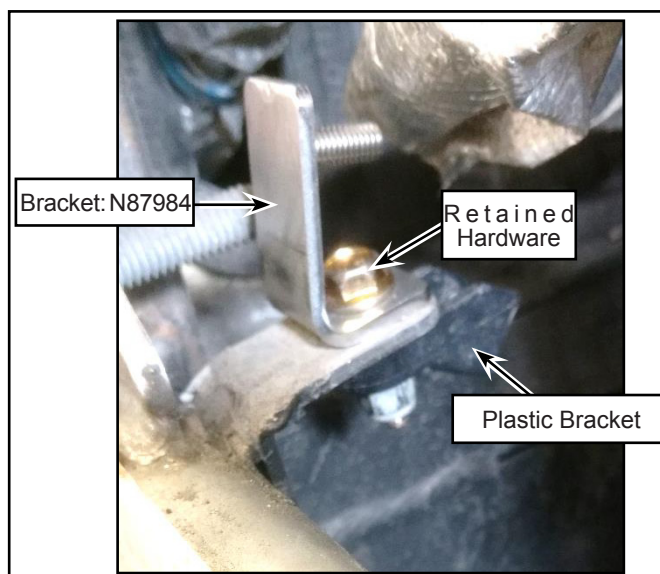

Figure 11 - Installation of New Bracket
- 1.14. Install the bracket (N87984) and the retained plastic bracket in the inverse position from its original position as shown (see Figure 11) with the hardware provided.